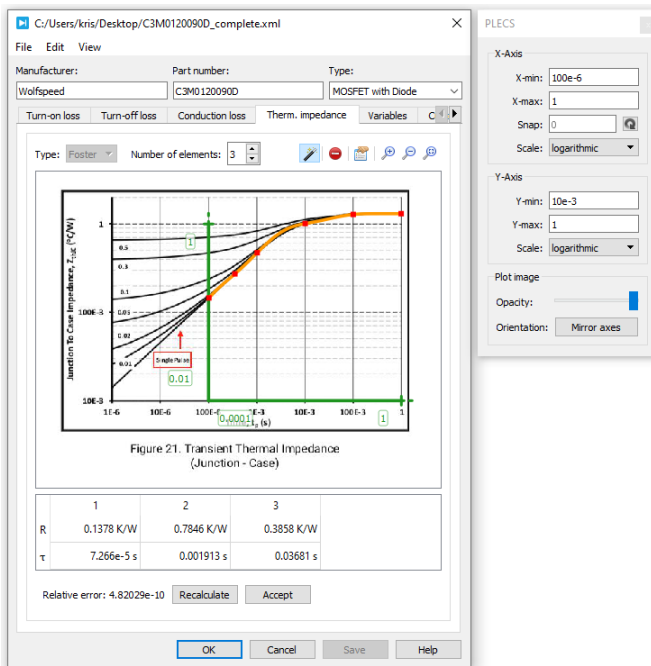

Figure 3: Thermal impedance curve import
- 1 The thermal impedance for the device has already been specified using a 4-element Cauer chain, but if you have time you can replace these values using information from the datasheet. Datasheets will often provide Foster or Cauer network coefficients, but in this case, only the heating curves are provided. The Curve Import Wizard tool has a fitting algorithm to calculate Foster network coefficients from the Single-Pulse test curve. Click on the **Therm. impedance** tab and then the button in the top-right corner of the table area. Drop a screenshot image of **Figure 21** into the window. An image file C3M0065090J_datasheet_figure21_thermal_impedance.png has been provided already. You will need to enter the limits in the **Configure axes** widget to the right and line up the green axis guides with the axes on the plot as you did before. It is recommended to use $100e-6$ as the lower limit of the X-axis (**X-min**) to avoid that very small Foster element coefficients are calculated resulting in stiff differential equations. You should then start setting points to recreate the Single-Pulse curve by carefully double-clicking along it. When you have selected the points with sufficient accuracy, increase the **Number of elements** to 1. PLECS calculates a set of Foster coefficients and displays the result as an orange curve on top of the graph. Increase the **Number of elements** until the orange curve graphically indicates a close match to the Single-Pulse curve (~4 elements should be appropriate). If the current fit is not satisfactory, you can calculate a new one by pressing the **Recalculate** button or provide more resolution to the fit by adding additional points along the curve. Fig. 3 shows a complete curve fit and resultant coefficients. When you are satisfied with the fit, click the **Accept** button, followed by the **Save** button. Note that doing this will overwrite the original thermal impedance data provided with the file.